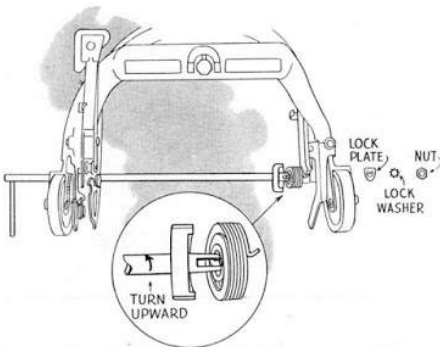

FIG. 129—To remove or replace bail spring
2. To replace a broken **bail spring** it is not necessary to remove the handle bail: Figure 129.
- c. Insert the split end of the special winding tool or screw driver into the open end of the bail stud and over the flattened end of the bail spring. See Figure 129. Special tool no longer supplied.